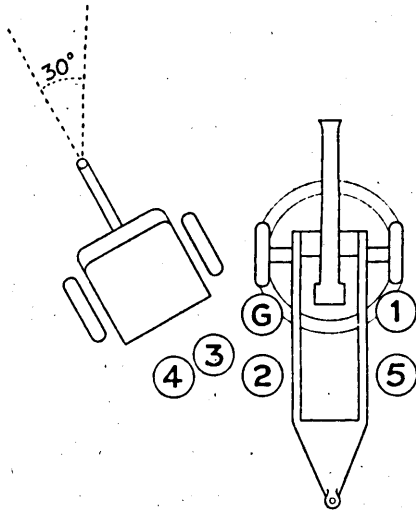

FIG. 4.
b. At drill all stand at attention at their posts (fig. 4) facing the front. In firing and in combat, minor modifications of these posts are required for the more efficient performance of the duties in the service of the piece and to secure the protection afforded by the materiel. One variation in the posts of cannoneers is encouraged when the caisson is to the right of the piece. In this case, No. 2 takes position on the right and No. 5 rams from a position on the left. Higher-numbered cannoneers, if present, take posts as prescribed by the chief of section.